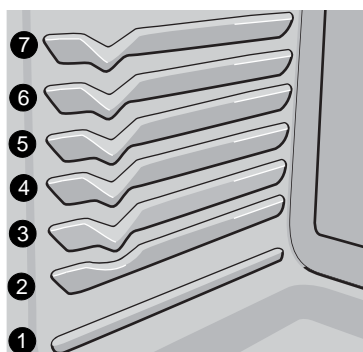

Figure 15: Oven rack positions
- For best results when baking cakes or cookies using two oven racks, place racks in positions 3 and 6 (See Figure 15).